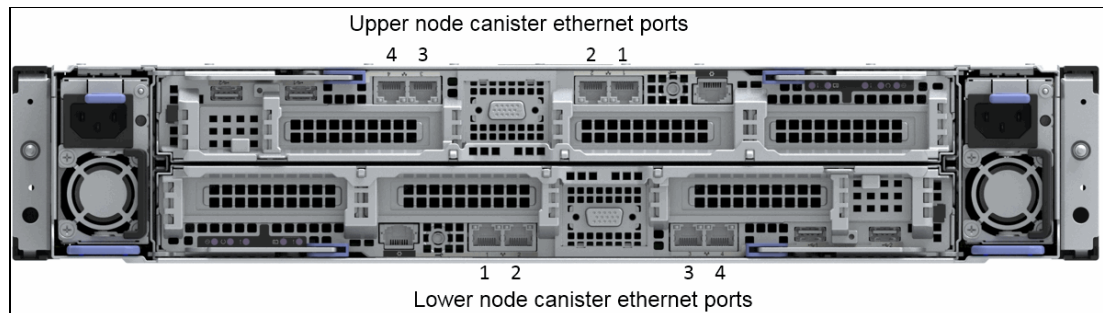

Figure 6-39 Control enclosure ethernet port locations
1. Connect ethernet port 1 of each node canister in the control enclosure to the IP network that will provide connection to the system management interfaces. See Figure 6-39.